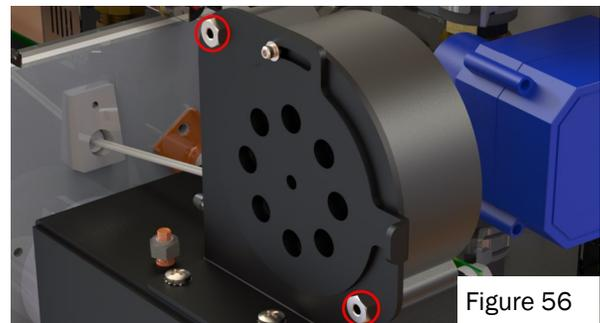

Figure 56
- Using a phillips screwdriver, and a 9mm socket, separate the defective blower fan from the air-shutter assembly by loosening the nuts shown in figure 56.